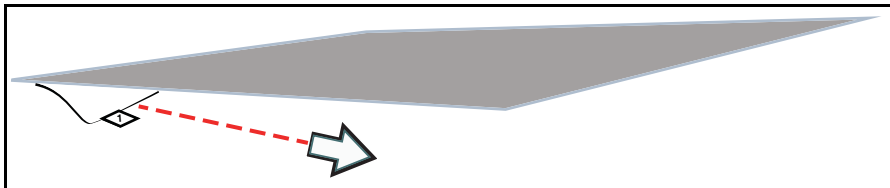

Figure 19-3 Removing rear mask
2. Remove the rear mask (Figure 19-3) from the screen protector.